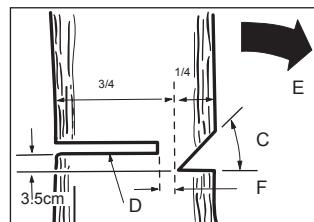

FIG. 1
Usually, felling a tree consists of two main cuts, the face cut (C Fig.1) and the undercut (D. Fig. 1), which is needed to fell the tree.
- Begin with the face cut (C) on the side of the tree facing the direction of the fall (E).
- The cut must be as deep as about  $\frac{1}{4}$  of the trunk diameter (F).
- After this operation, make the cut (D) on the other side of the tree at about 3-5 cm above the height of the face cut (Fig. 1).